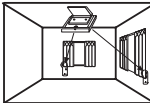

Fig 4
- Ceiling Mounted** (for optimal results Wireless VITRON is centered and directed towards protected glass, using the supplied swivel adaptor, see fig. 4).